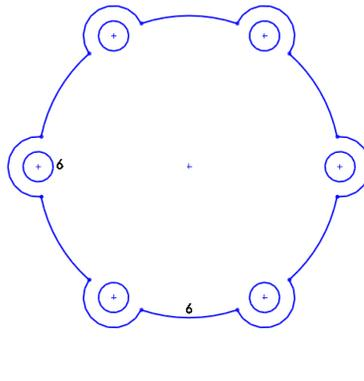

Figure 3-77 Final sketch for Tutorial 3
5. Add the **Display instance count** check box. Accept the remaining default values and choose the **OK** button to create the pattern. The final sketch of the model is shown in Figure 3-77. In this figure, all relations are hidden for clarity.